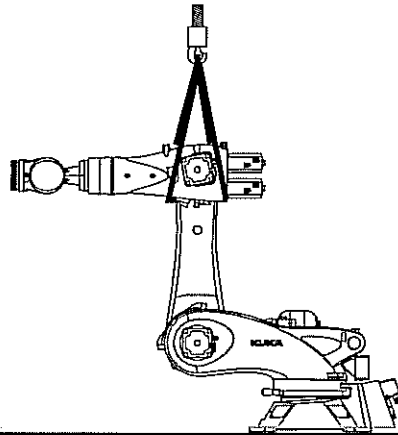

Fig. 12-23: Securing the link arm
4. Secure link arm using a rope sling and crane (>>> Fig. 12-23).